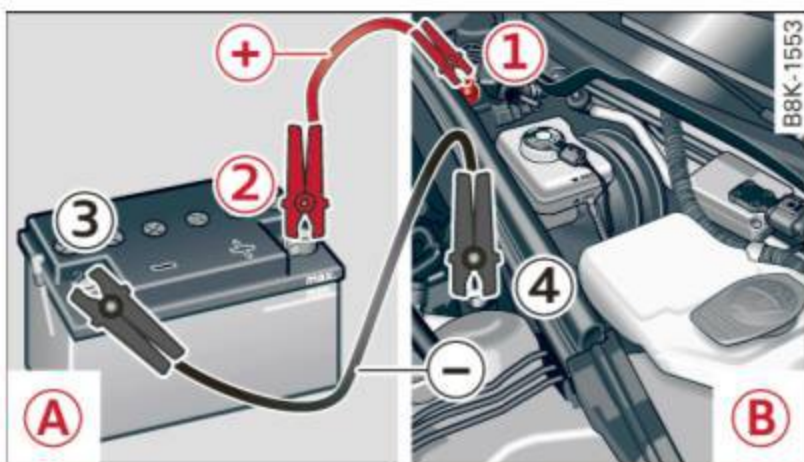

Fig. 196 Jump starting with the battery of another vehicle: (A) booster battery, (B) discharged vehicle battery
1. Connect one end of the red positive cable on the **jump start bolt** ⇒ fig. 196 (1) (Bolts under red cover = “positive”) of the vehicle to be started (B).
2. Connect the other end to the positive terminal (2) of the booster battery (A).
- Please note that the procedure for connecting a jumper cable as described above applies specifically to the case of your vehicle being jump started. When you are giving a jump start to another vehicle, do *not* connect the negative (-) cable to the negative (-) terminal on the discharged battery  ⇒ *fig. 196*. Instead, securely connect the negative (-) cable to either a solid metal component that is firmly bolted to the engine block or to the engine block itself. If the battery that is being charged does not vent to the outside, escaping battery gas could ignite and explode!